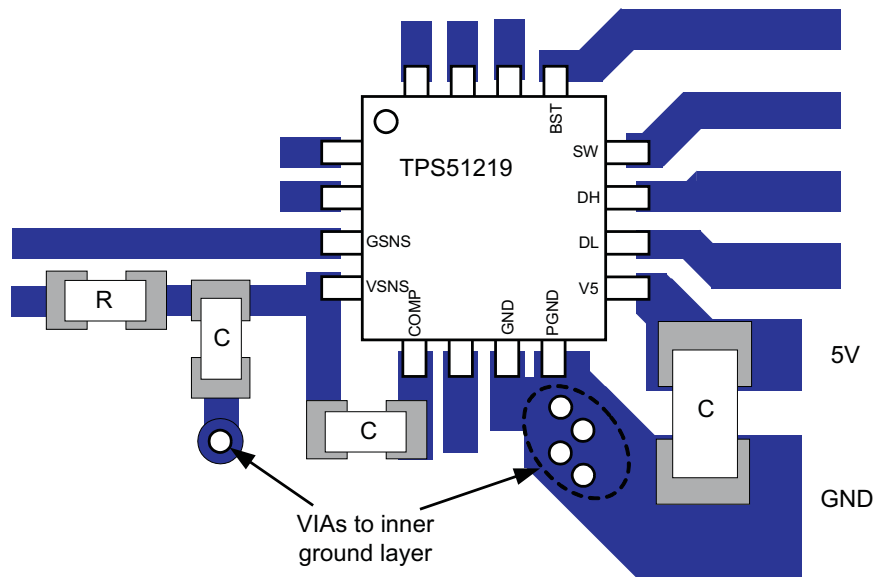
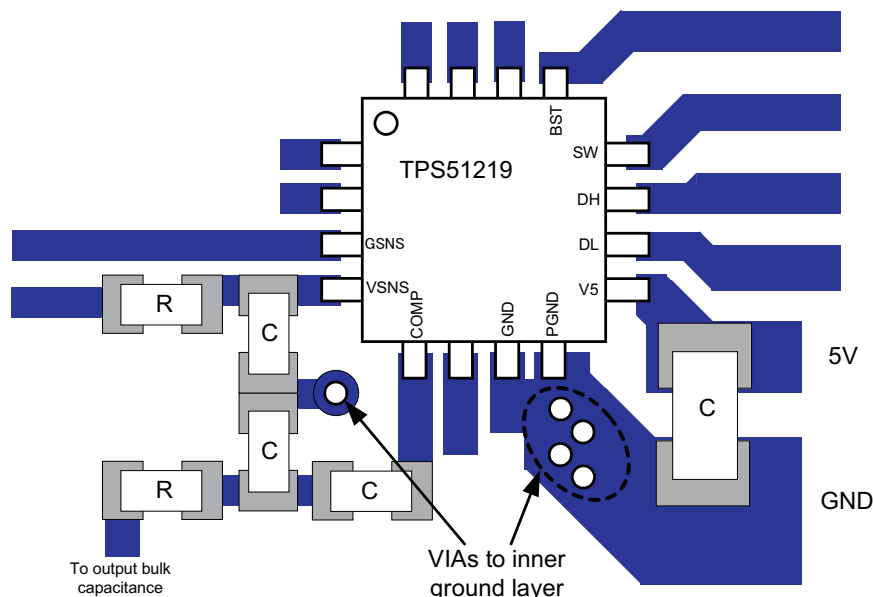

Figure 31. Case 1: COMP Pin Capacitance Connected to VSNS
Figure 32. Case 2: COMP Pin Capacitance Connected to Output Bulk Capacitance
- Connect VSNS directly to the output voltage sense point at the load device. Connect GSNS to ground return points at the load device. Insert a 10-Ω, 1-nF, R-C filter between the sense point and the VSNS pin where the COMP capacitance is connected as shown in Case 1 (Figure 31). When the COMP pin capacitance is connected to output bulk capacitance, connect the R-C filter in series to both the VSNS pin and the COMP capacitance as shown in Case 2 (Figure 32).